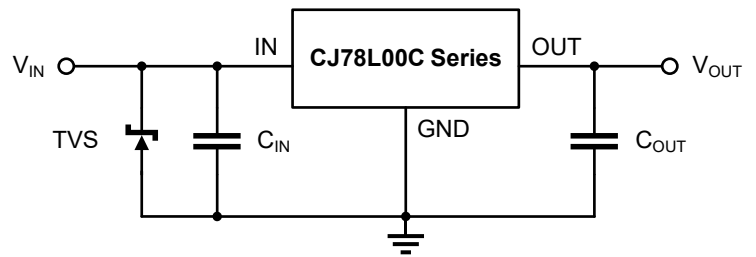

Figure 9-2. TVS is used at IN
1. Place a TVS between the IN and GND of the voltage regulator to absorb the peak voltage that may be generated due to ESD or other reasons. As shown in Figure 9-2;
**For the CJ78L00C series, it is recommended that the peak voltage should not exceed 36V. When the input voltage of the operating circuit may not meet the application conditions described above, it is recommended to adopt the circuit layout shown in Figure 9-2 to 9-4 in the circuit design.** During the power supply design process, the designer must inspect the application circuit to ensure that under no circumstances will the IC be damaged due to the reasons mentioned above.
It is recommended that the  $C_{OUT}$  should not exceed  $20\mu\text{F}$ . When the  $C_{OUT}$  exceeds  $20\mu\text{F}$ , it is recommended to use the circuit layout shown in Figure 9-2. See *Large Output Capacitance* for more details.